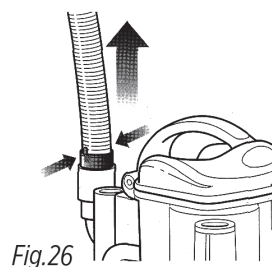

Fig.26
- Detach the stretch hose from the back of the portable Lift-Away® canister by squeezing the tabs together and pulling up. (Fig. 26) Straighten out the hose and look inside for blockages.